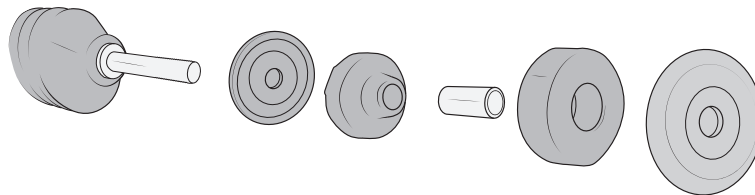

Figure 26
10. Assemble the shock bushings as shown (fig. 26) then install AEV shocks.